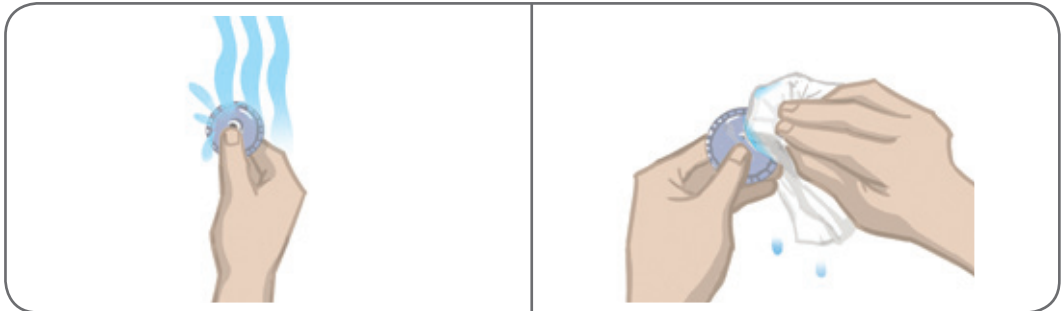

Figure 6-5: Wetting the Electrode and Removing Excess Water
3. Wet the Cloth Electrodes with water until they are saturated. See Figure 6-5.
4. Use a washcloth to gently wipe or blot excess water off the back (side with the snap) of the electrodes. See Figure 6-5.